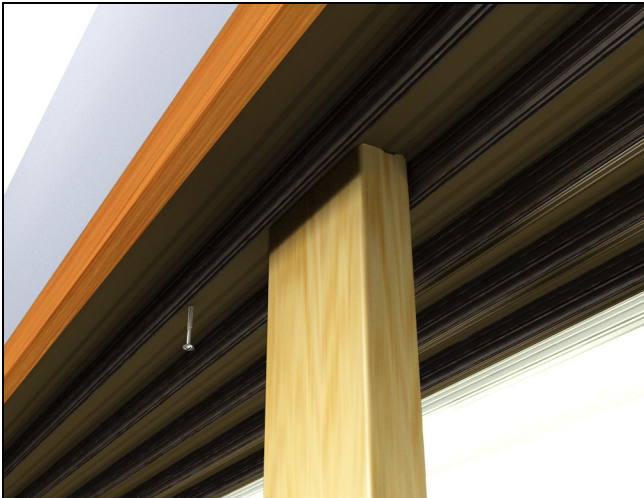

Figure 95
5. If necessary, shim head jamb so that the story pole stays in light contact with the sill and head jamb frame. Fasten with #8 x 3" black installation screws. See figure 95.